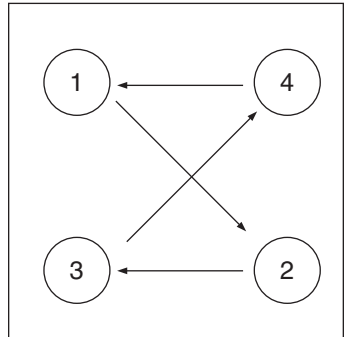

Fig. 40
- e. Tighten the 4-Bolts. Step by step to avoid damaging the seals (**Fig. 40**).